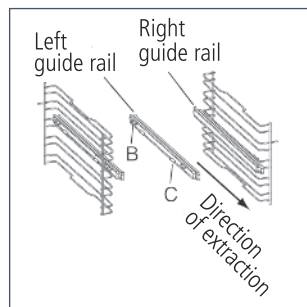

Figure 1.
- › Choose which shelf to use with the telescopic runner. Paying attention to the direction in which the runner is to be extracted, position joint 'B' and joint 'C' on the frame (see Fig.1).